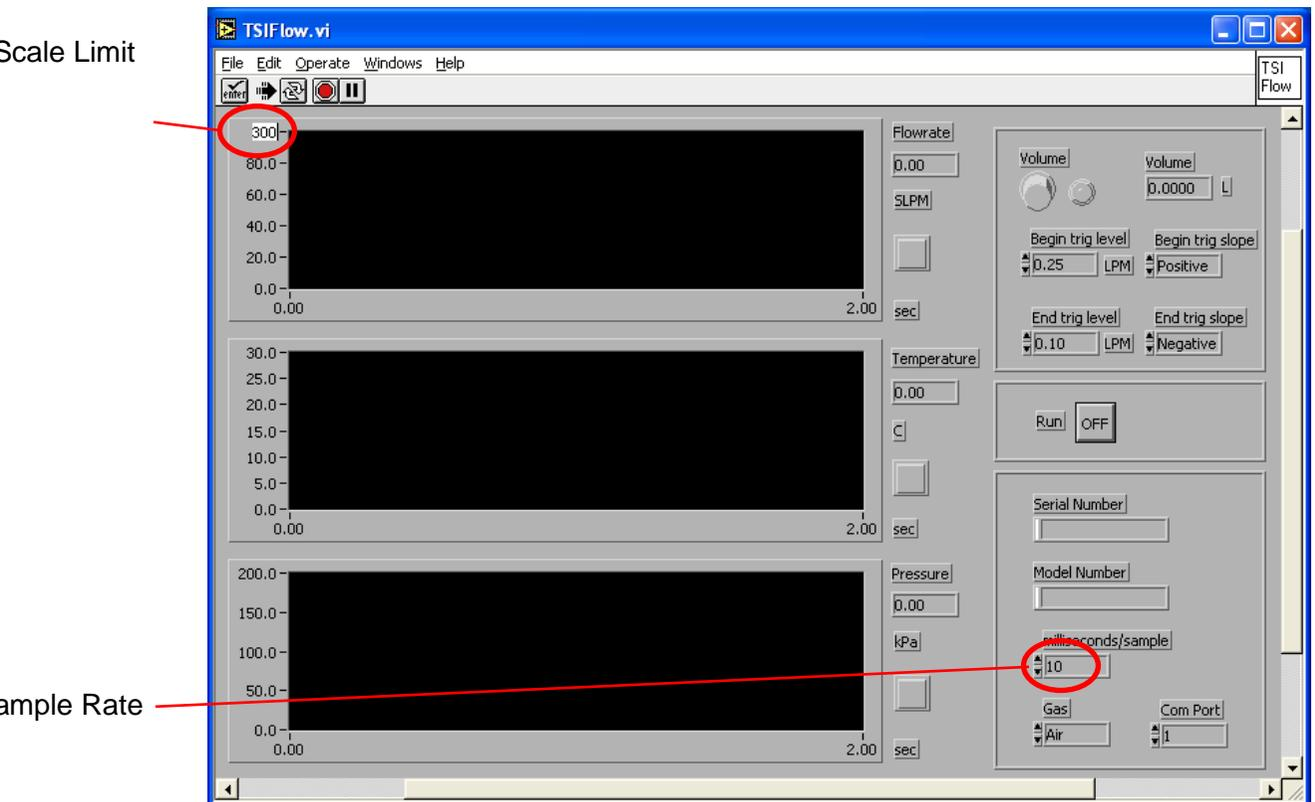

Figure 44: TSI Flow Adjustment Screen 1
12. Turn on your computer. The following screen appears. Change the Upper Scale limit to 300 and the Sample Rate to 500. (Figure 44)